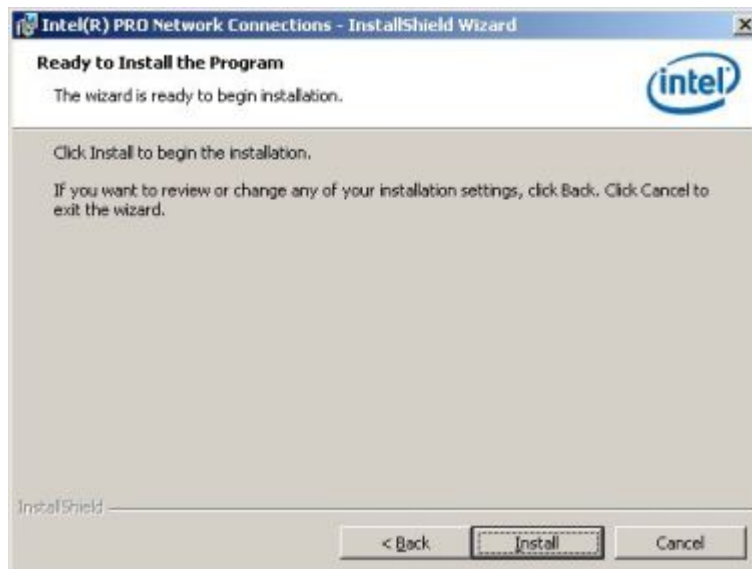

Figure 7-27: Intel® 82566DM Driver Installation Ready Window
Step 19: The **Ready to Install the Program** window in **Figure 7-27** appears.
Step 20: Click **INSTALL** in **Figure 7-27**.